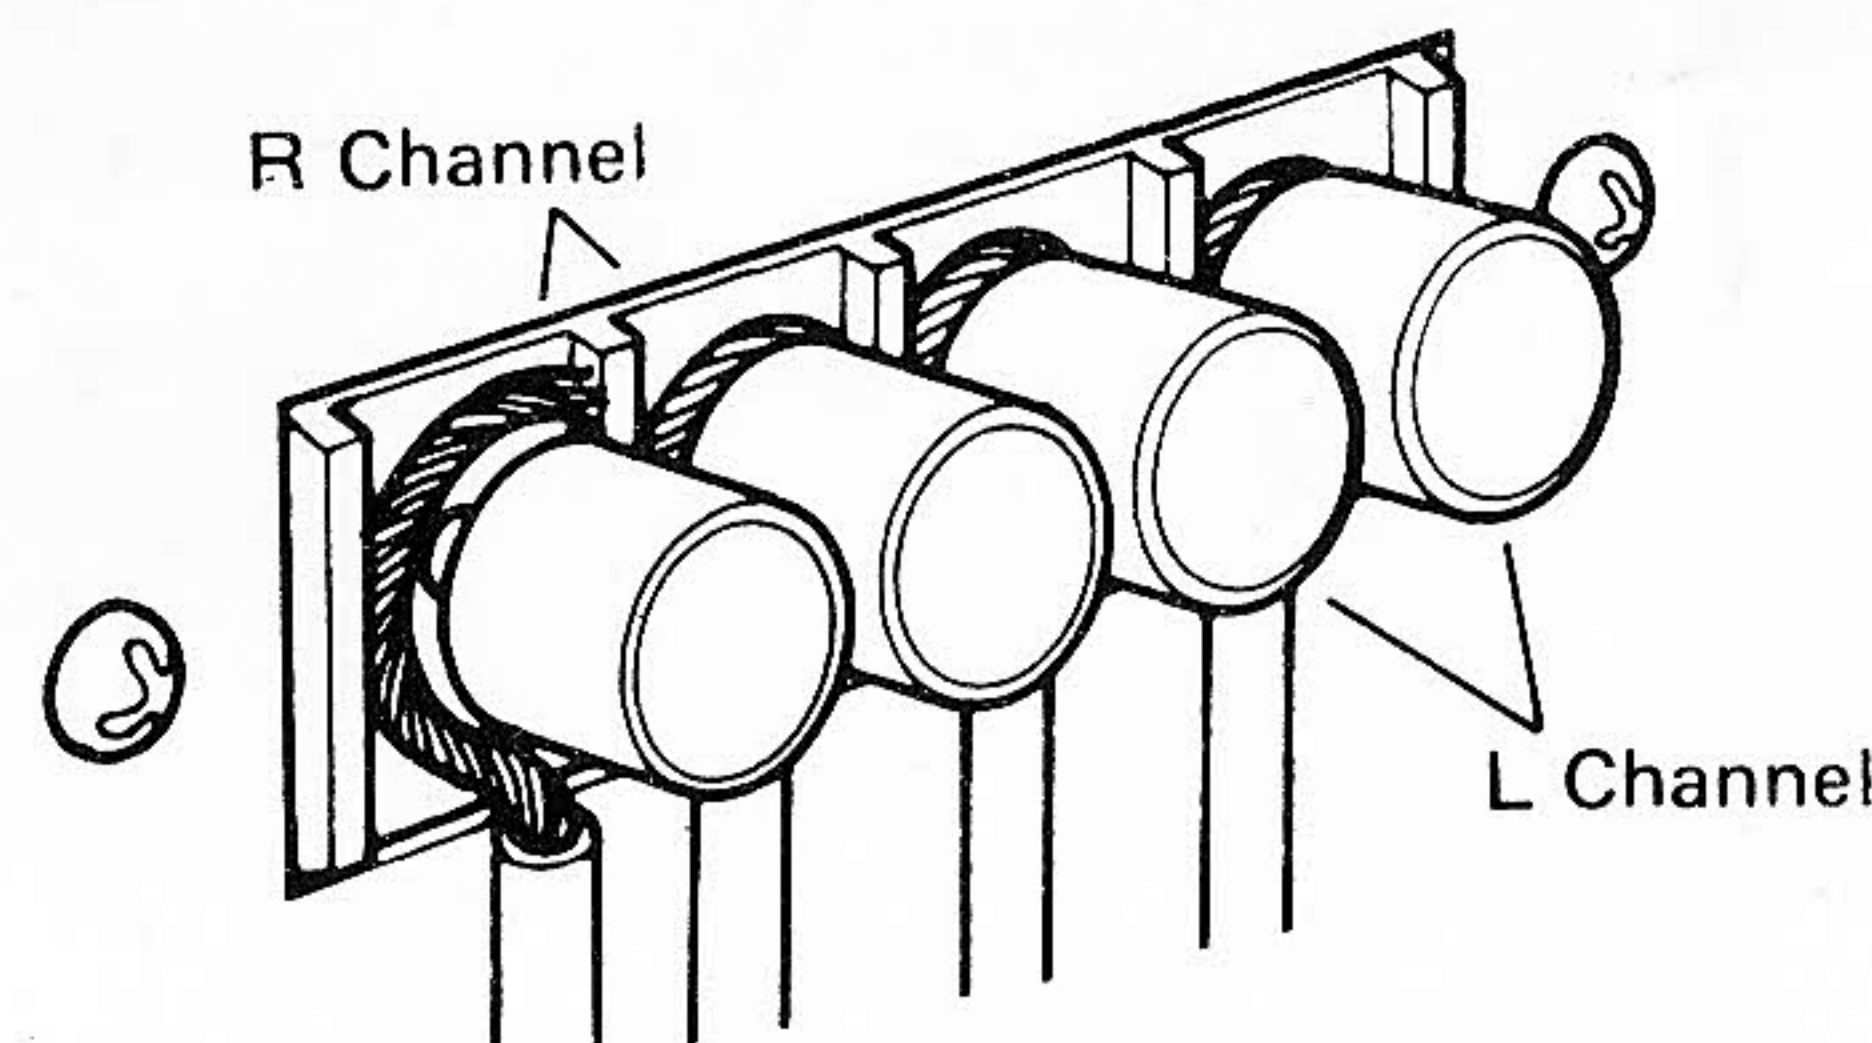

Fig. 3 Connecting Speaker Systems
- 1) As shown in Fig. 3, connect the speaker system placed on the right-hand side of your room to the red and black terminals marked RIGHT, and the one placed on the left-hand side of your room to the terminals marked LEFT.